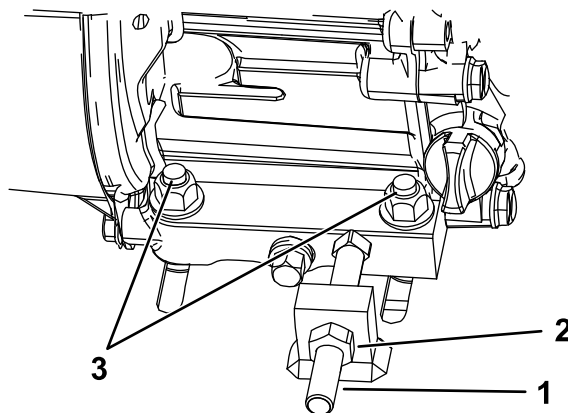

Figure 25
4. Loosen the 4 engine mounting bolts, and jam nuts holding the adjustment bolt (Figure 25).
- Loosen the 4 engine mounting bolts, and jam nuts holding the adjustment bolt (Figure 25).
- Tighten the fasteners securing the engine to the frame (Figure 25).